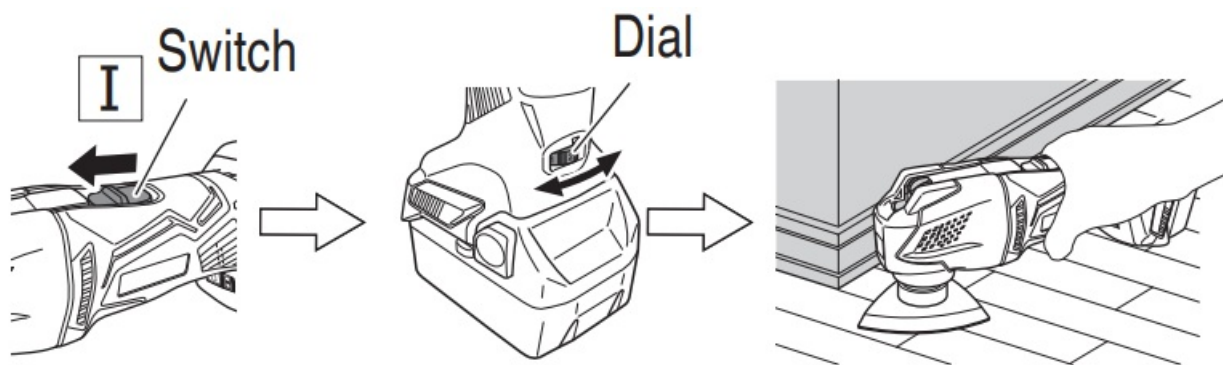

Fig. 13
1. Switch the unit on and use the dial to set the speed of the application tool. (Fig. 13)
2. Lightly place the application tool on the material and move the application tool back and forth at a pace where the movement isn't slowed. (Fig. 13)